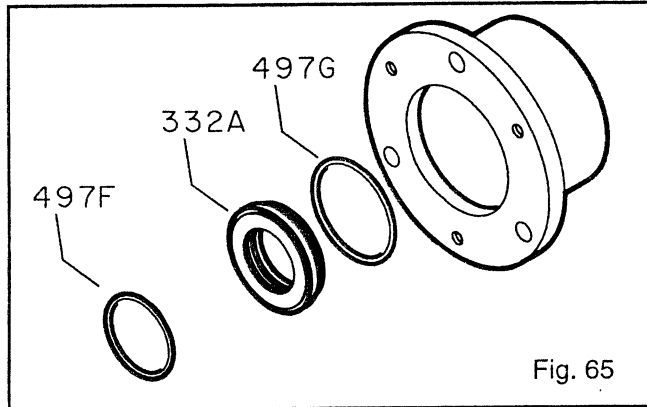

Fig. 65
- Remove outboard labyrinth seal (332A) from bearing housing (134). Remove O-rings (497F), (497G) if necessary (Fig. 65).